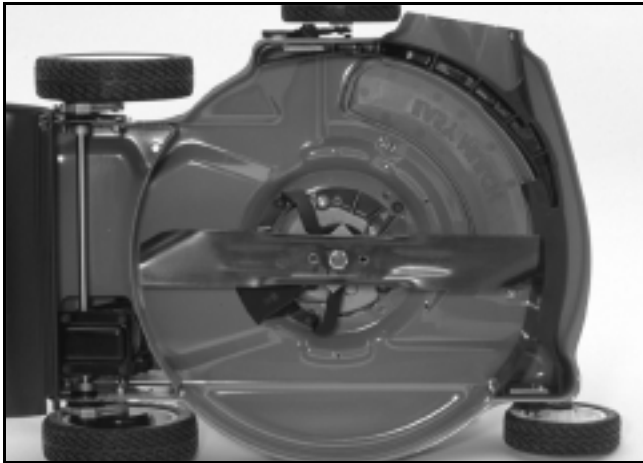

Figure 6
1. (Mower) Using a 1/2" drive with a 15/16" socket, remove the blade nut that secures both the mulch fan and blade to the engine. Use heavy-duty gloves to hold the blade while removing the nut. (See Figure 6.) Note: Removing the blade is merely for convenience while working.